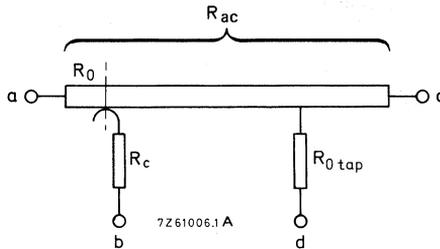

Fig. 3 Diagram of potentiometer; spindle in fully counter-clockwise position.
**Terminal resistance** – Minimum resistance which can be obtained between the termination connected to the moving contact b and any other termination. (Fig. 3).
**Residual resistance** – The resistance between either end termination a or c and the termination connected to the moving contact b when the moving contact is set against the relevant end stop. (Fig. 3).
**Maximum attenuation** – Maximum value of the attenuation when the potentiometer is used as an attenuator (see Fig. 3).